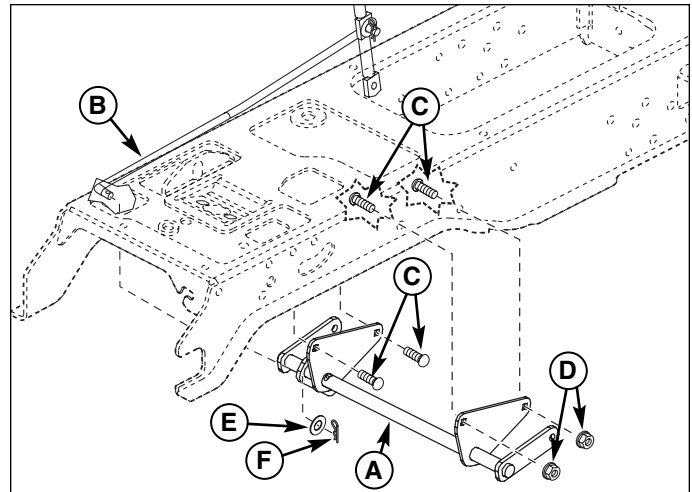
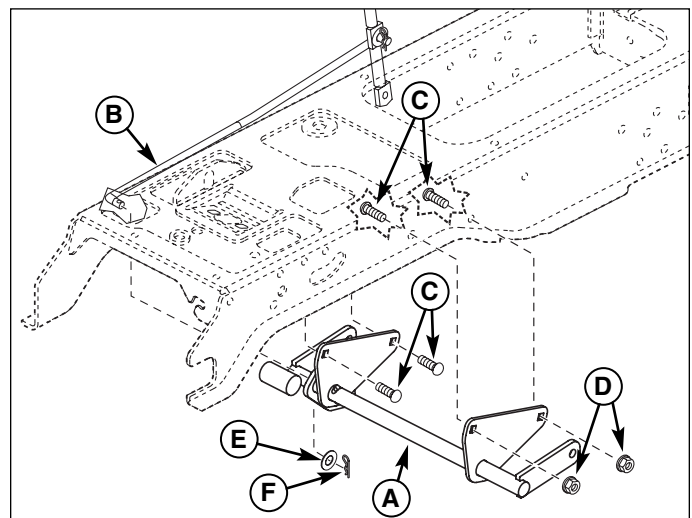

Figure 5. Remove Old Lift Shaft Assembly
Figure 6. Install New Lift Shaft Assembly
1. Remove hair pin (F, Figure 5) and washer (E).
2. Remove lift rod (B) from lift shaft assembly (A).
3. Remove and discard lift shaft assembly (A). Retain hardware.
4. Mount the new lift shaft assembly (A, Figure 6) to the frame using four 5/16-18 x 3/4 carriage bolts (C) and 5/16-18 KEPS nuts (D).
5. Connect the lift rod (B) to the lift shaft assembly (A) using washer (E) and hair pin (F).